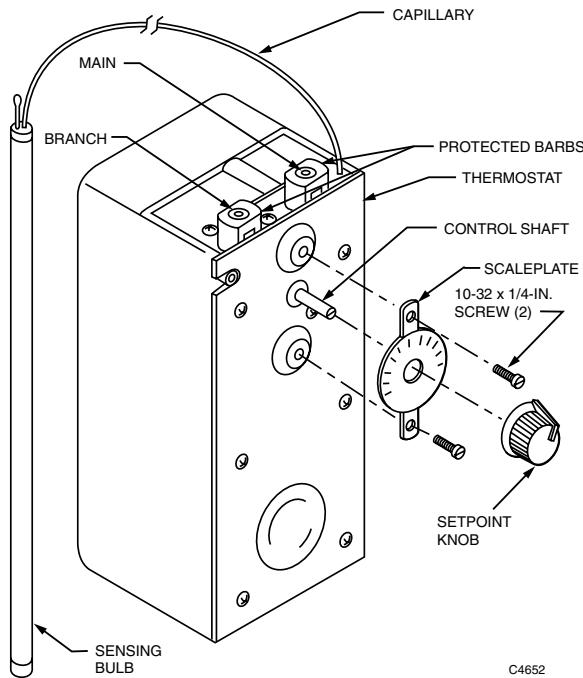

Fig. 14. Installing the setpoint knob and scale plate.
2. Mount the thermostat from the rear of the panel and secure on the front with the scale plate and screws. See Fig. 14.
3. Place the setpoint knob on the control shaft with the pointer aligned over the mid-mark on the scale plate. See Fig. 14. Secure the knob firmly with the set screw to maintain the calibration.